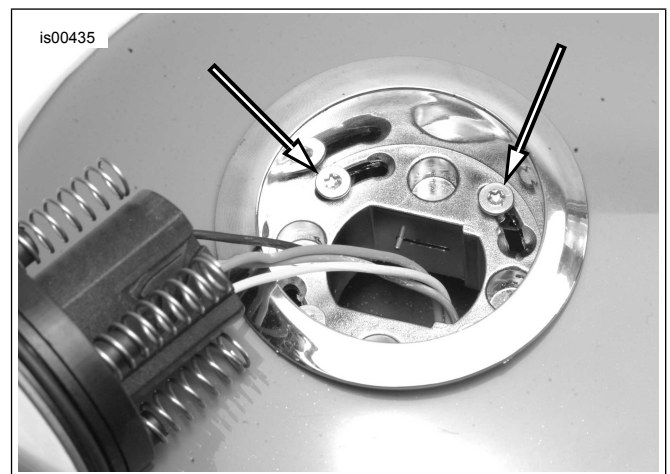

Figure 8. Gauge Housing in Unlocked Position
7. See Figure 8 and Figure 9. Pull fuel gauge from housing. The gauge housing will be in the unlocked position. Loosen (but do not remove) screws. **Put fingers on screw heads**, push and rotate clockwise along the slot to the countersunk hole.